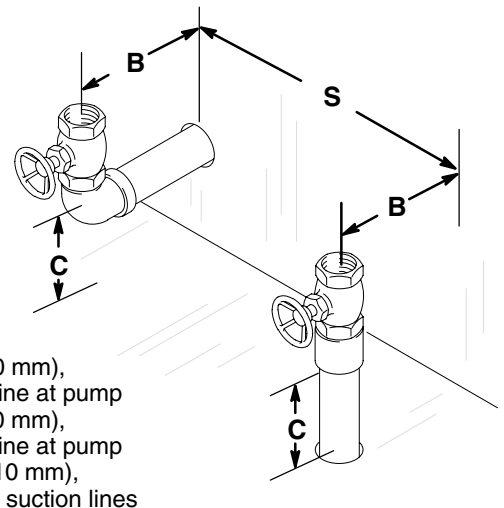

Fig. 3
- For installation dimensions for suction lines at the pump end, see Fig. 3.